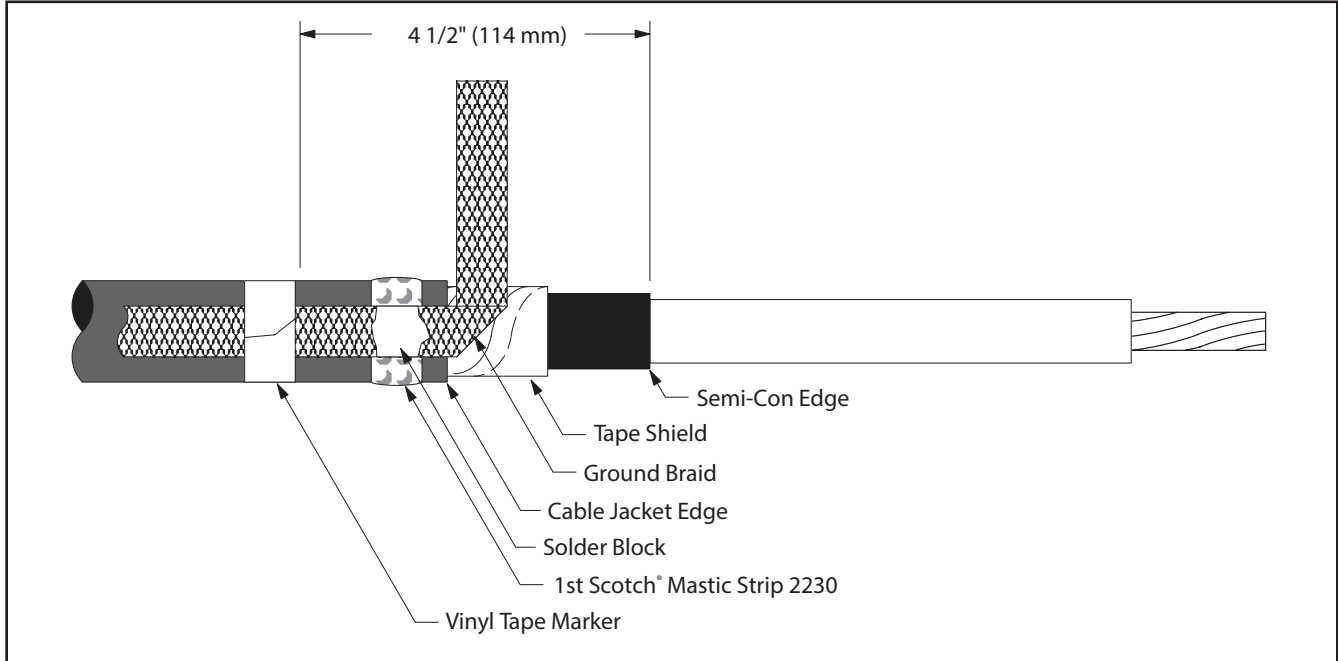

Figure 2
- 3.1 Position pre-formed ground braid with short tail over tape shield directly adjacent to cable jacket cut edge. PLEASE NOTE: The ground braid needs to make full contact with the metallic tape shield. Position long tail of ground braid, extending over cable jacket with solder block over mastic strip (*Figure 2*). Secure ground braid to cable jacket 4 1/2" (114 mm) from cable semi-con edge using vinyl tape (*Figure 2*).